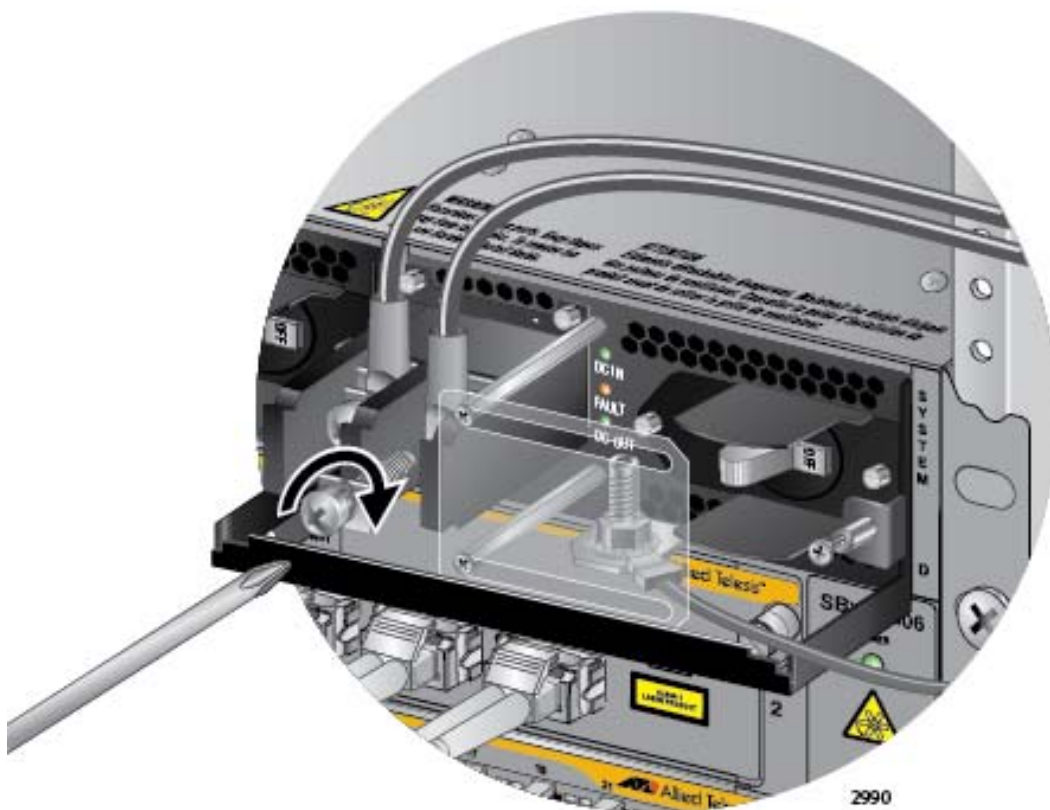

Figure 137. Connecting the Negative (-) Power Wire with a Straight Terminal
7. With a #3 Phillips-head screwdriver, connect the negative (-) power lead wire to the negative terminal on the power supply, with the remaining terminal screw removed in step 5. The negative terminal is on the right. You may attach the terminals with the wires either above or below the terminal block. Figure 137 on page 210 shows the wires above the terminal block.